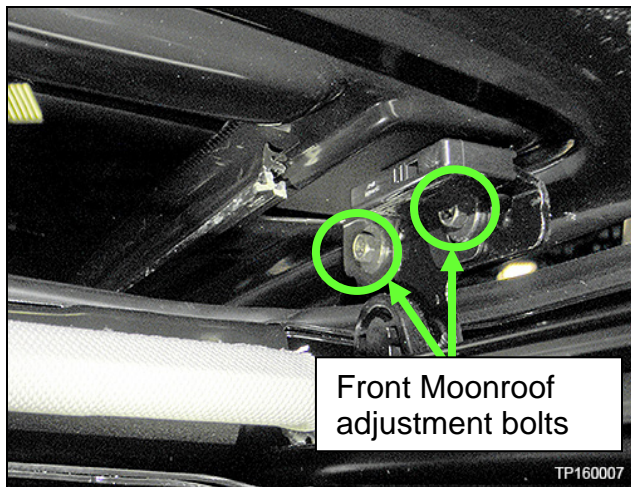

Figure 46
8. Loosen the Moonroof adjustment bolts (Figure 46 for front and Figure 47 for rear) and adjust the glass height to the proper position or height.